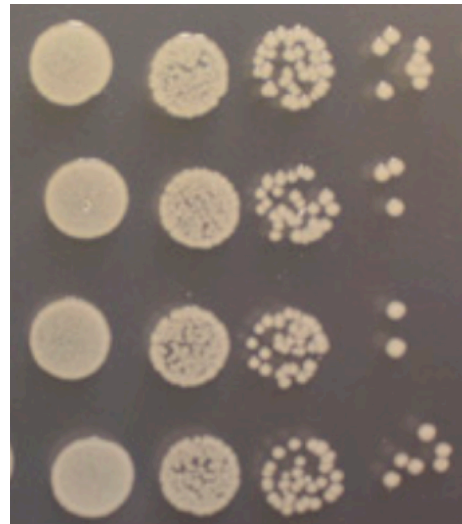

Figure 9.1. Spot titer rows.
You've done many viable-count spread plates this semester. In this experiment, we will use a similar technique, but designed to look at *many dilutions on a single plate*. The reason for this is that we will not have a very good idea how many living bacteria are in a sample, because we are actively trying to kill them off. The "spot titer" plates you will make here are not as *accurate* as full spread plates because you often can't count individual colonies, but you can see growth over a much wider range of dilutions. Whenever an experiment calls for you to set up a spot titer plate, use the following protocol, which is demonstrated graphically in Figures 9.1 through 9.3.
1. You can put up to 4 rows of spots onto a single plate. Each row represents a single series of 4 dilutions for one culture. See **Figure 9.1** for an example.
- Label a petri dish as shown in Figure 9.1. Make sure to write on the bottom of the dish which rows correspond to which samples in a way that you can understand when you look at these plates next class period.